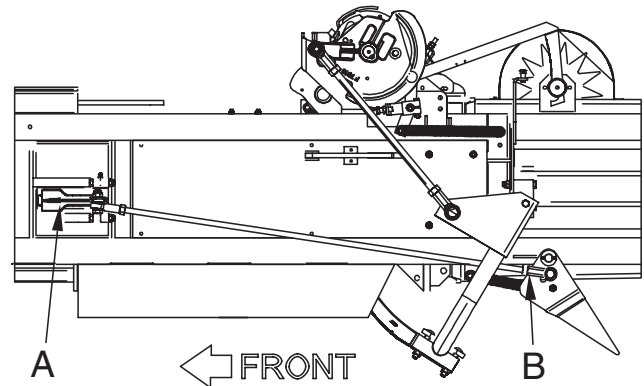

Figure 125. Plunger Safety Latch
The plunger safety latch (A) helps protect the needles against breakage (see Figure 125). If, for any reason, the needles remain in the bale chamber while baling, the plunger stop dog stops the plunger and the flywheel shear bolt is sheared.